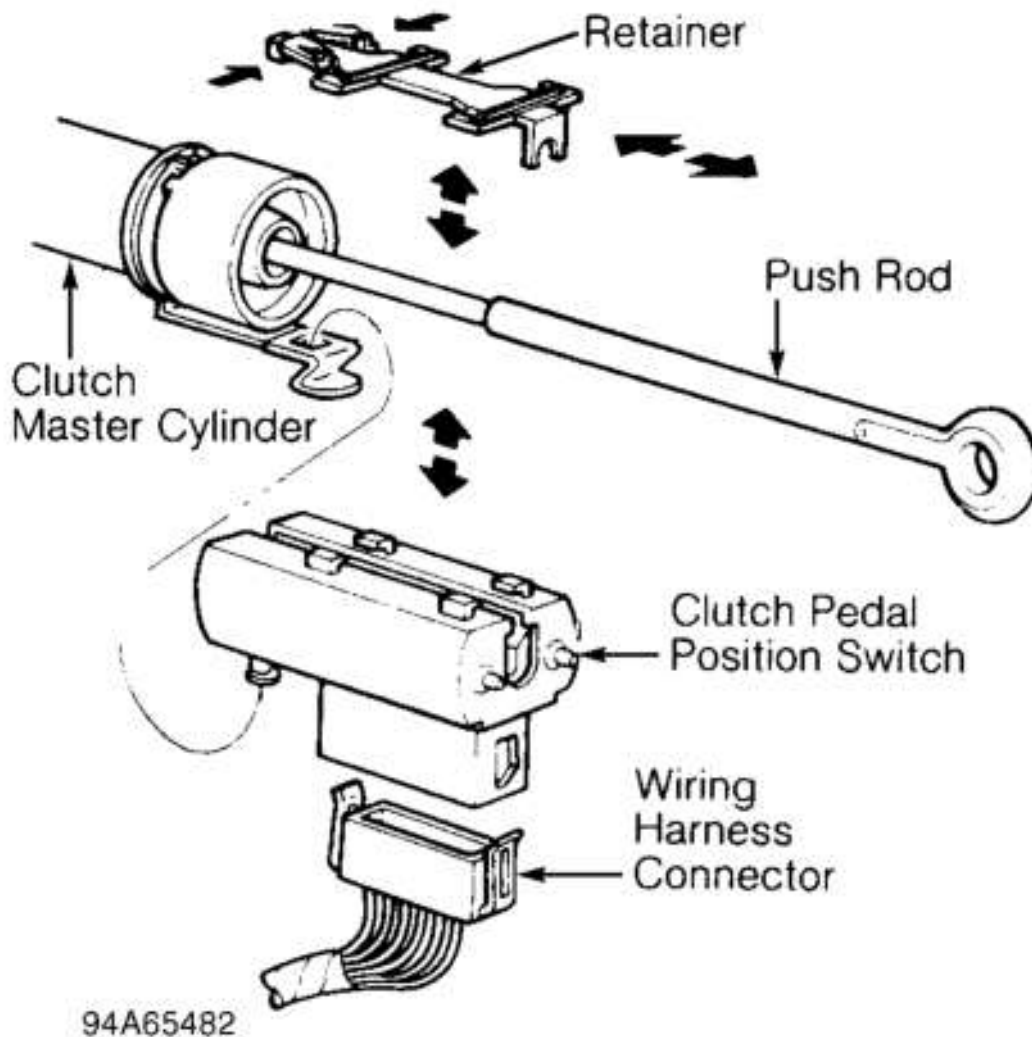

Fig. 3: Identifying Clutch Pedal Position Switch & Components
Disconnect wiring harness from CPP switch. Using an ohmmeter, check for continuity between pins No. 1 and 2. See **Fig. 2** . Switch should be open (infinity) when pedal is up and clutch is engaged. Switch should be closed (zero ohms) when clutch pedal is pressed to floor. If switch does not function as specified, replace switch. See **Fig. 3** .
1. Disconnect wiring harness from CPP switch. Pull orientation clip away from switch to separate it from locating pin. See **Fig. 3** . Rotate switch until White plastic retainer is exposed.